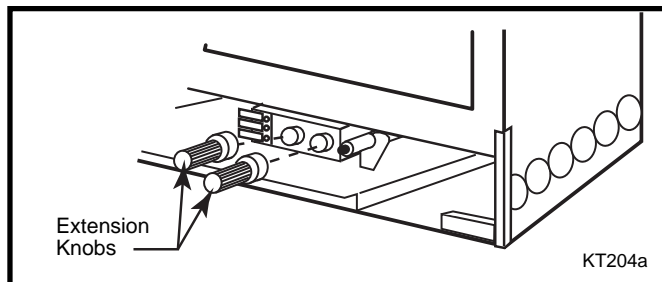

Fig. 32 Install the knob extensions. (Only for RN/RP models)
- c. Install the Control Knobs Extensions onto the appropriate Control Valve Knobs (Fig. 32)
On units fitted with a Honeywell brand control valve the location of the control knobs and the ignitor button may vary slightly from those shown in Figure 32. The Honeywell extension pieces are visually different in design and are not interchangeable with the RN/RP knobs shown in Figure 32.